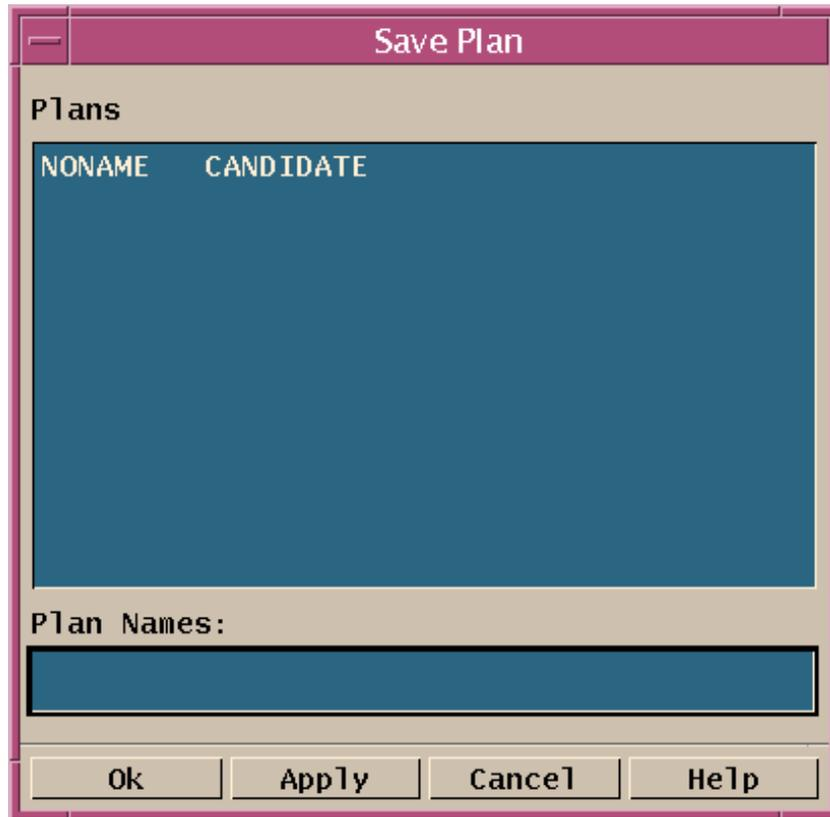

Figure 35. Planning Workbench Save Plan Window
- The **Save Plan** window (Figure 35) is displayed.